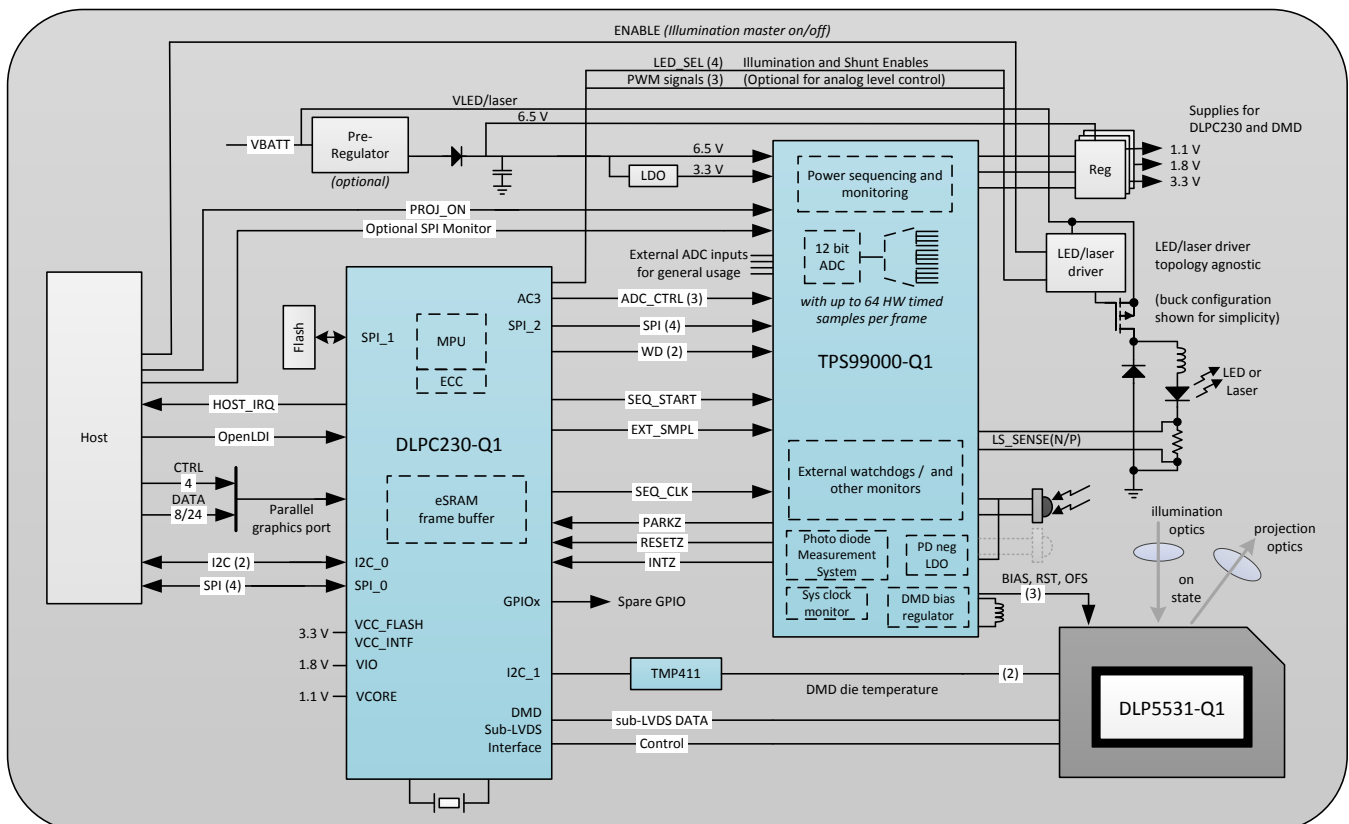

Figure 21. Headlight System Block Diagram
The chipset consists of three components—the DLP5531-Q1 automotive DMD, the DLPC230-Q1, and the TPS99000-Q1. The DMD is a light modulator consisting of tiny mirrors that are used to form and project images. The DLPC230-Q1 is a controller for the DMD; it formats incoming video and controls the timing of the DMD illumination sources and the DMD in order to display the incoming video. The TPS99000-Q1 is a high performance voltage regulator for the DMD and a management IC for the entire chipset. In conjunction, the DLPC230-Q1 and the TPS99000-Q1 can be used for system-level monitoring, diagnostics, and failure detection features. Figure 21 is a system level block diagram with these devices in the DLP headlight module configuration and displays the primary features and functions of each device.
**Figure 21** shows the system block diagram for a DLP headlight module. The system uses the DLPC230-Q1, TPS99000-Q1, and the DLP5531-Q1 automotive DMD to enable a headlight projection system with unprecedented resolution and grayscale light control. The combination of the DLPC230-Q1 and TPS99000-Q1 removes the need for external SDRAM and a dedicated microprocessor. The chipset manages the illumination control of LED sources, power sequencing functions, and system management functions. Additionally, the chipset supports numerous system diagnostic and built-in self test (BIST) features. The following paragraphs describe the functionality of the chipset used for a headlight projection system in more detail.